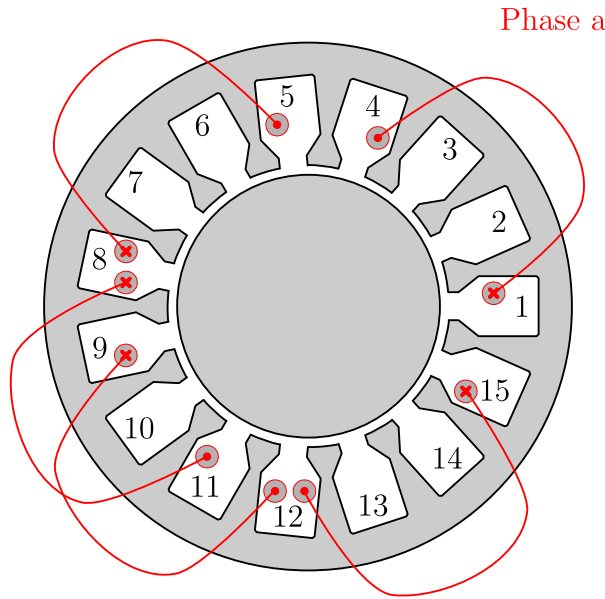

Figure 4.2.1: Simplified sketch of a distributed winding scheme. Only phase a is shown.
Consider a 4-pole three-phase motor with 15 stator slots. A simplified sketch of this motor with the winding scheme of phase a is shown in Fig. 4.2.1.
4.2.2 Complete the winding scheme of the given machine in Tab. 4.2.1 for the phases b and c. Sketch the resulting winding scheme into Fig. 4.2.1.
Table 4.2.1: Winding scheme of the distributed winding from Fig. 4.2.1.
4.2.5 Assume a block-shaped distribution of the flux density with a maximal value of $\hat{B} = 1$ T and a number of winding turns $N'_a = 30$ (i.e., there are more turns per coil as indicated within Fig. 4.2.1). The axial length of the machine is $l = 0.35$ m and the diameter is $d_s = 0.10$ m. The machine rotates with a mechanical speed of $n = 250 \frac{1}{\text{min}}$. Calculate the induced voltage of phase a for the fundamental wave as well as of the 5th and 7th harmonics.